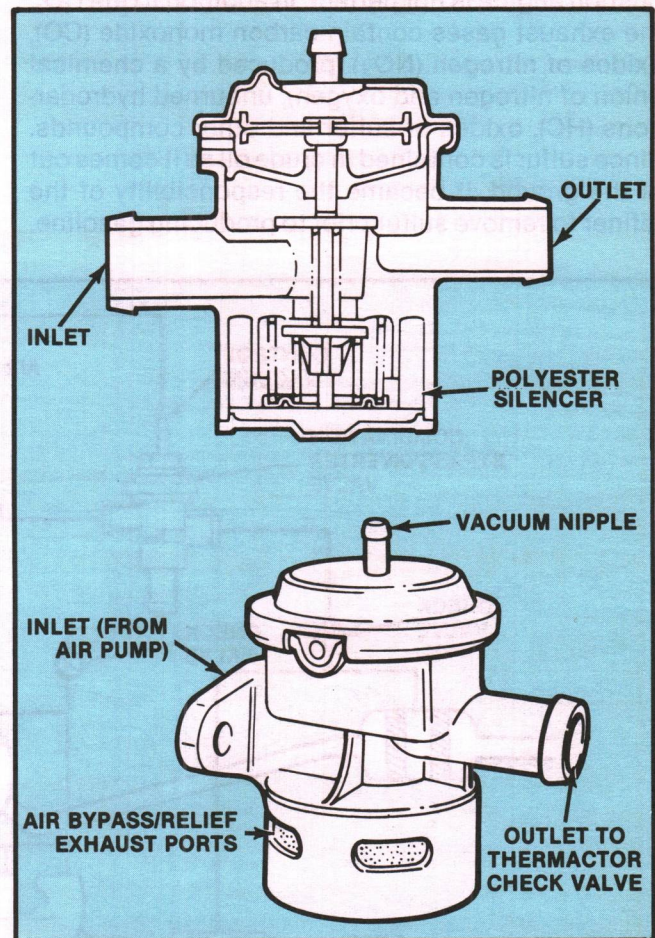

Figure 75. Typical Thermactor Air Bypass Valve—Normally Closed
- **Air Bypass Valve (Fig. 75)**—Used to route secondary air either to the air control valve or to the atmosphere.